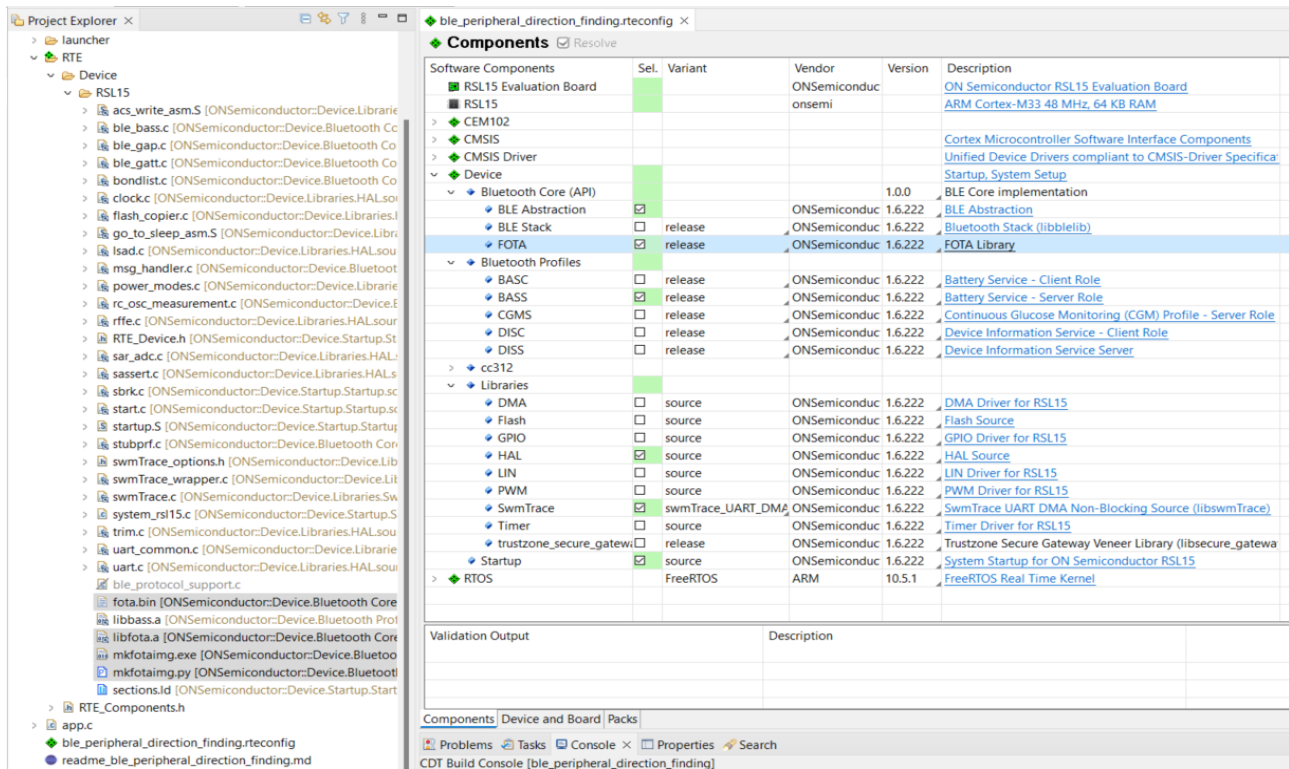

Figure 16. Adding the FOTA Software Component
2. Add the FOTA software component to your project by using the RTE Configuration Wizard (the *ble_peripheral_direction_finding.rteconfig* file). When you select the **FOTA** component and click save, *libfota.a*, *fota.bin*, *mkfotaimg.exe* and the tool *mkfotaimg.py* are copied into your project, under **RTE > Device > <device>**. In addition, you need to deselect the **BLE Stack** component as shown in the figure "Adding the FOTA Software Component" (Figure 16).
4. Modify the sample application to add random and seed initialization functions in *app.c*. These functions are initially defined in *ble_protocol_support.c*, which is excluded for the FOTA stack, as shown in the figure "Adding the FOTA Software Component" (Figure 16).